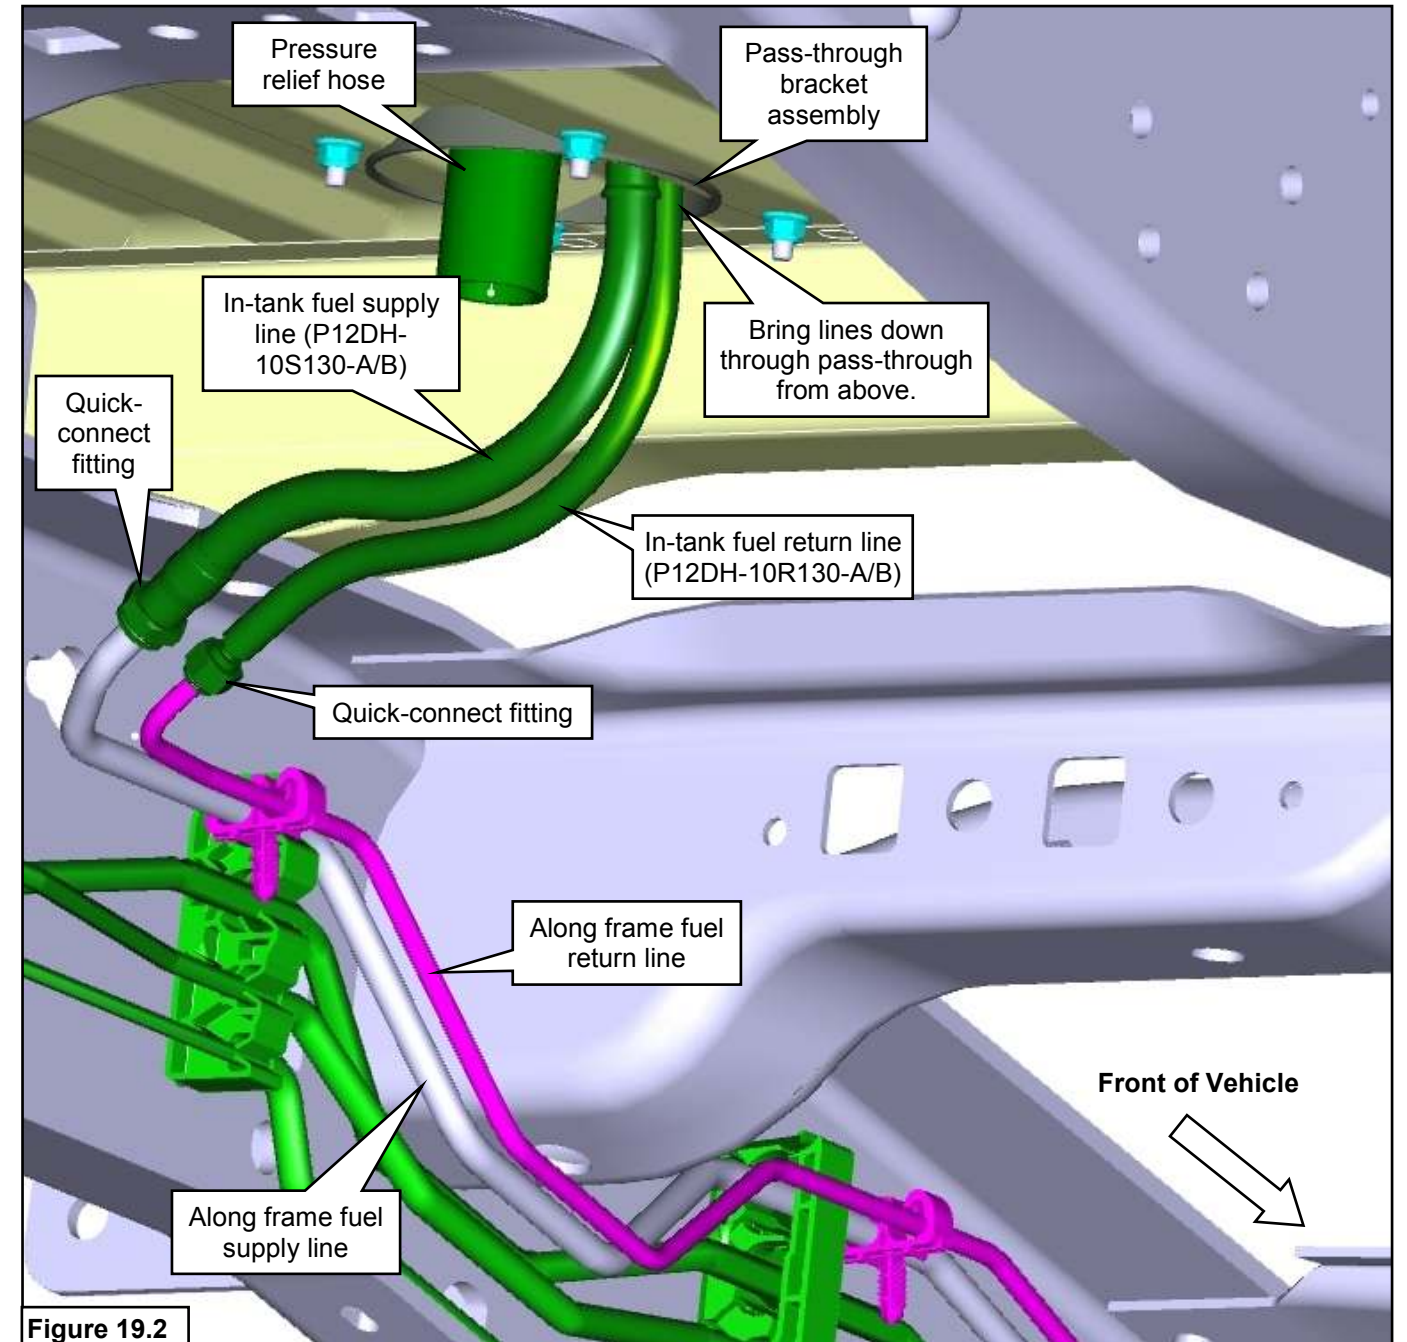

Figure 19.2
1. From underneath, route the fuel supply line over to the fuel supply line on the frame rail. Route the fuel return line over to the fuel return line on the frame rail. **Figure 19.2.**